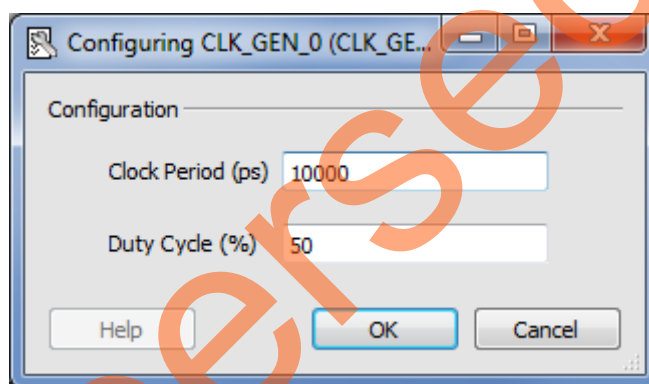

Figure 18. CLK_GEN Configuration
8. Open the **Clock_Generator** configurator by double-clicking the CLK_GEN_0 in the SmartDesign canvas. Ensure that the following information, as shown in Figure 18, is set in the CLK_GEN_0 configurator and click **OK**: